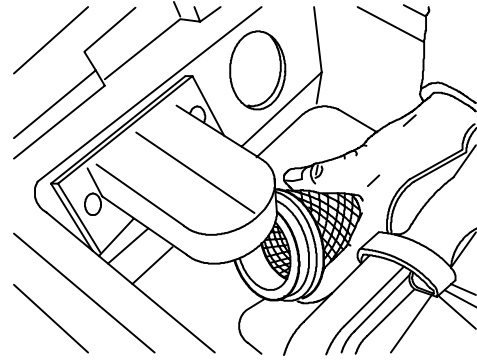

FIG. 58
2. Remove and clean the float shut-off screen located in the recovery tank (Figure 58).